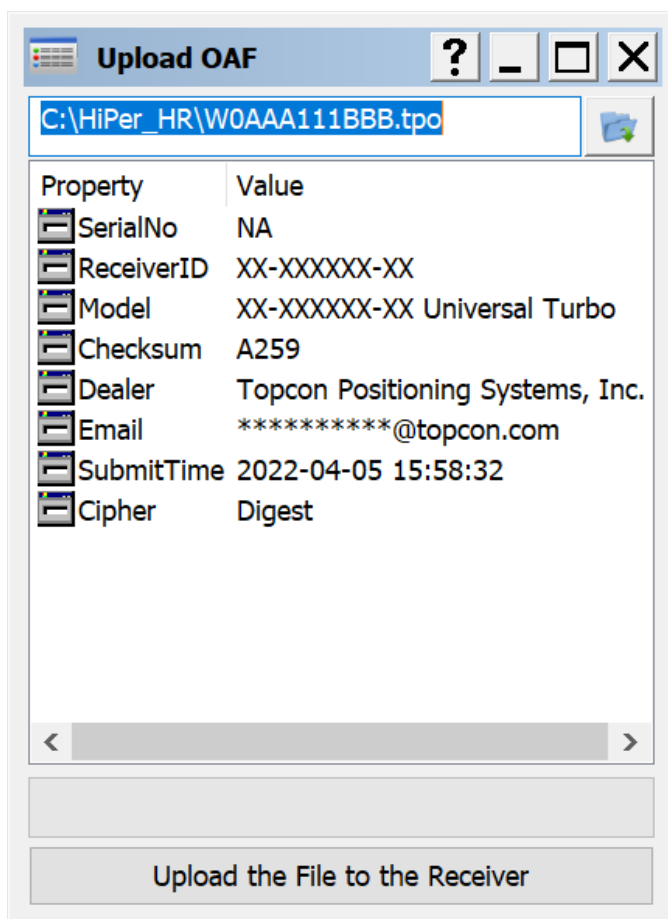

Figure 5-12: Upload OAF to the Receiver
5. Select **Upload the File to the Receiver** to start loading the file (Figure 5-12).